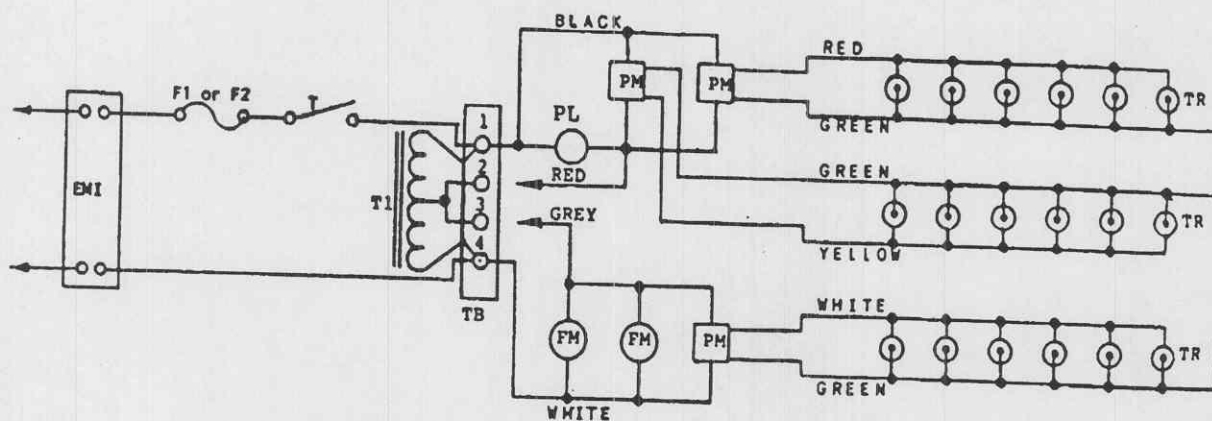
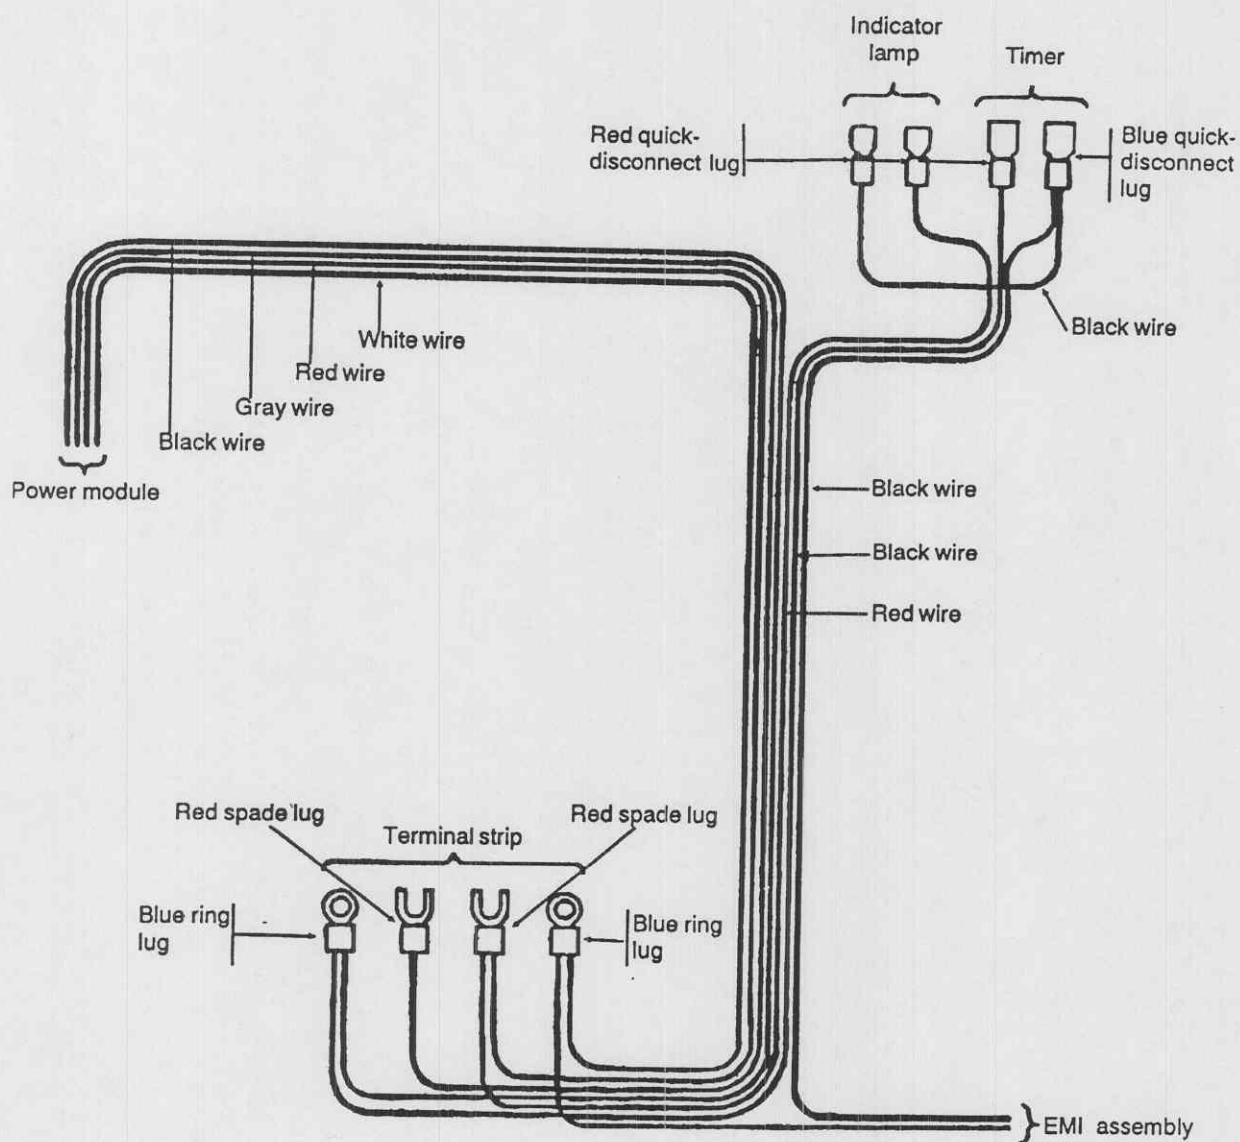

Figure 3-1. Electrical schematic.
Figure 3-2. Wiring harness.
(8) Verify the correct electrical connections on the terminal block inside the rear service panel. Electrical connections are identified in table 3-1. The electrical schematic (fig 3-1) and the wiring harness diagram (fig 3-2) also depict the electrical connections.
c. An electrical schematic and wiring harness diagram are provided as figures 3-1 and 3-2 for detailed electrical troubleshooting and failure analysis.
Operation of the power modules can be verified by observing that each green LED is glowing. If not, refer to table 3-3 and check to assure that all wiring has been correctly replaced in this installation sequence. The wiring harness in figure 3-2 provides additional troubleshooting information.